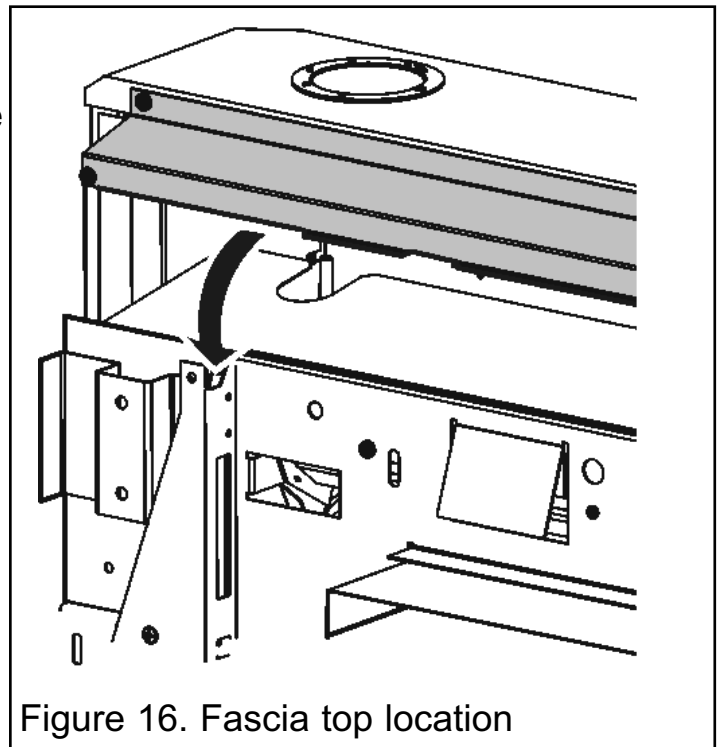

Figure 16. Fascia top location
1. Place the fascia over the engine. Make sure that the top rear of the fascia locates fully into the 'U' shaped notch of the engine back panel (See figure 16).
4. Replace in the reverse order. Make sure that the top rear of the fascia locates fully into the ‘U’ shaped notch of the engine back panel (See figure 16). Make sure that the radiants are not dislodged when refitting the fascia.